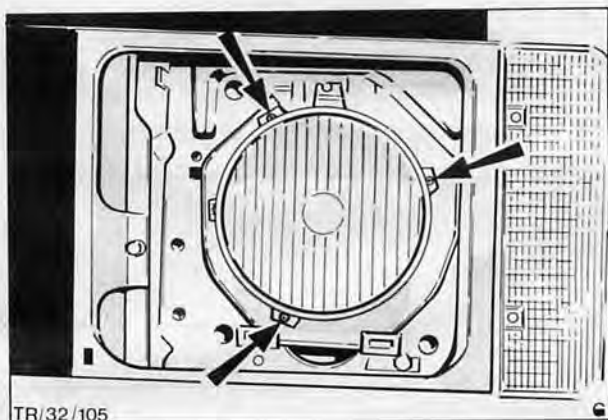

Fig. 5. Headlamp mounting screws
3. Remove screw(s) securing headlamp to vehicle, Fig. 5 and withdraw lamp from vehicle. On variants with sealed beam headlamps remove headlamp bezel.